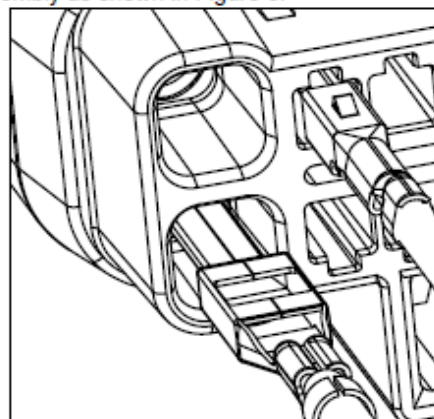

Figure 3
- Orient the male terminals correctly with each terminal position opening in the male connector assembly as shown in Figure 3.